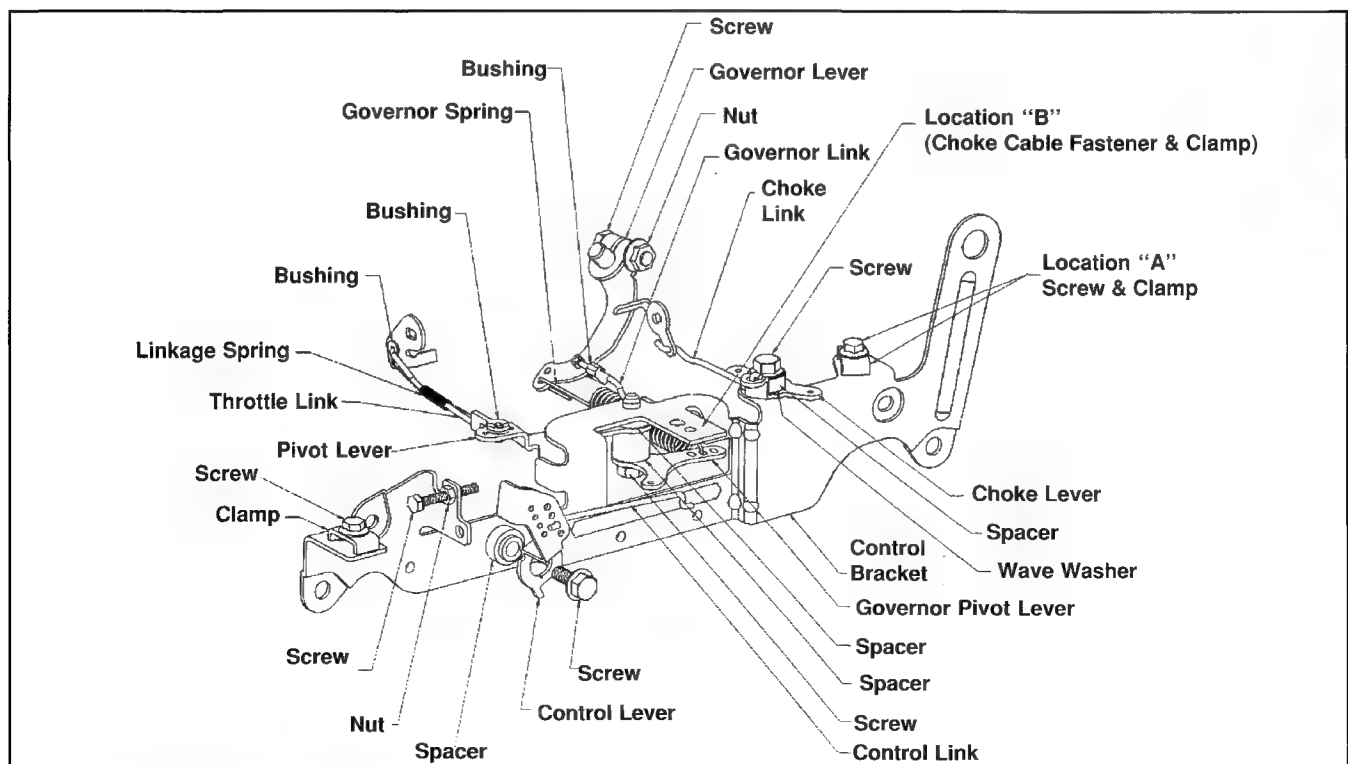

Figure 9-8. Standard Throttle Control Detail.
8. Unsnap the linkage bushing and disconnect the throttle link and linkage spring from the pivot lever. See Figure 9-8.